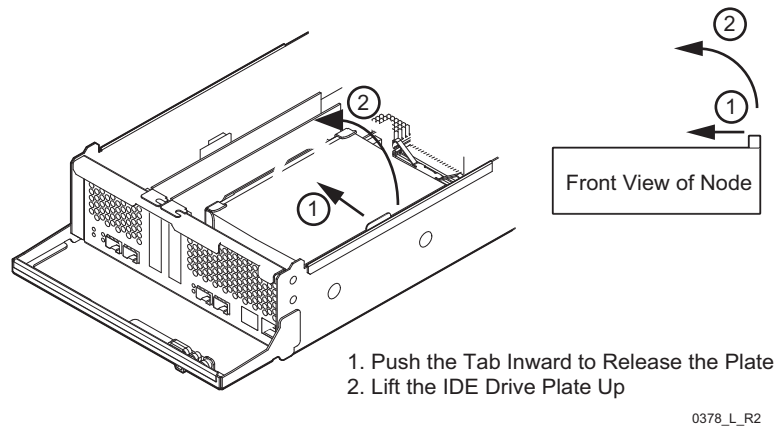

Figure 15-1. Push the Springboard Tab Inward to Release the IDE Drive Plate
- 14 Push the release tab of the springboard cover plate of the disk inward and lift the plate up to free the node disk (Figure 15-1).